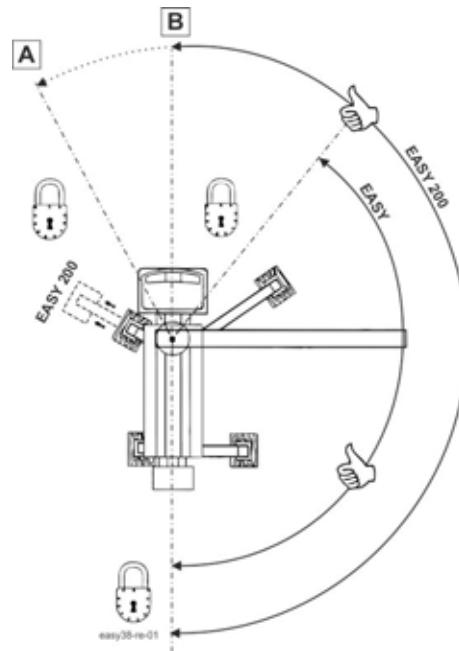

Fig. 423
- If necessary, first move the placing boom back to the secure (supported) area (example: **(Fig. 423)**) using the emergency operation control levers.